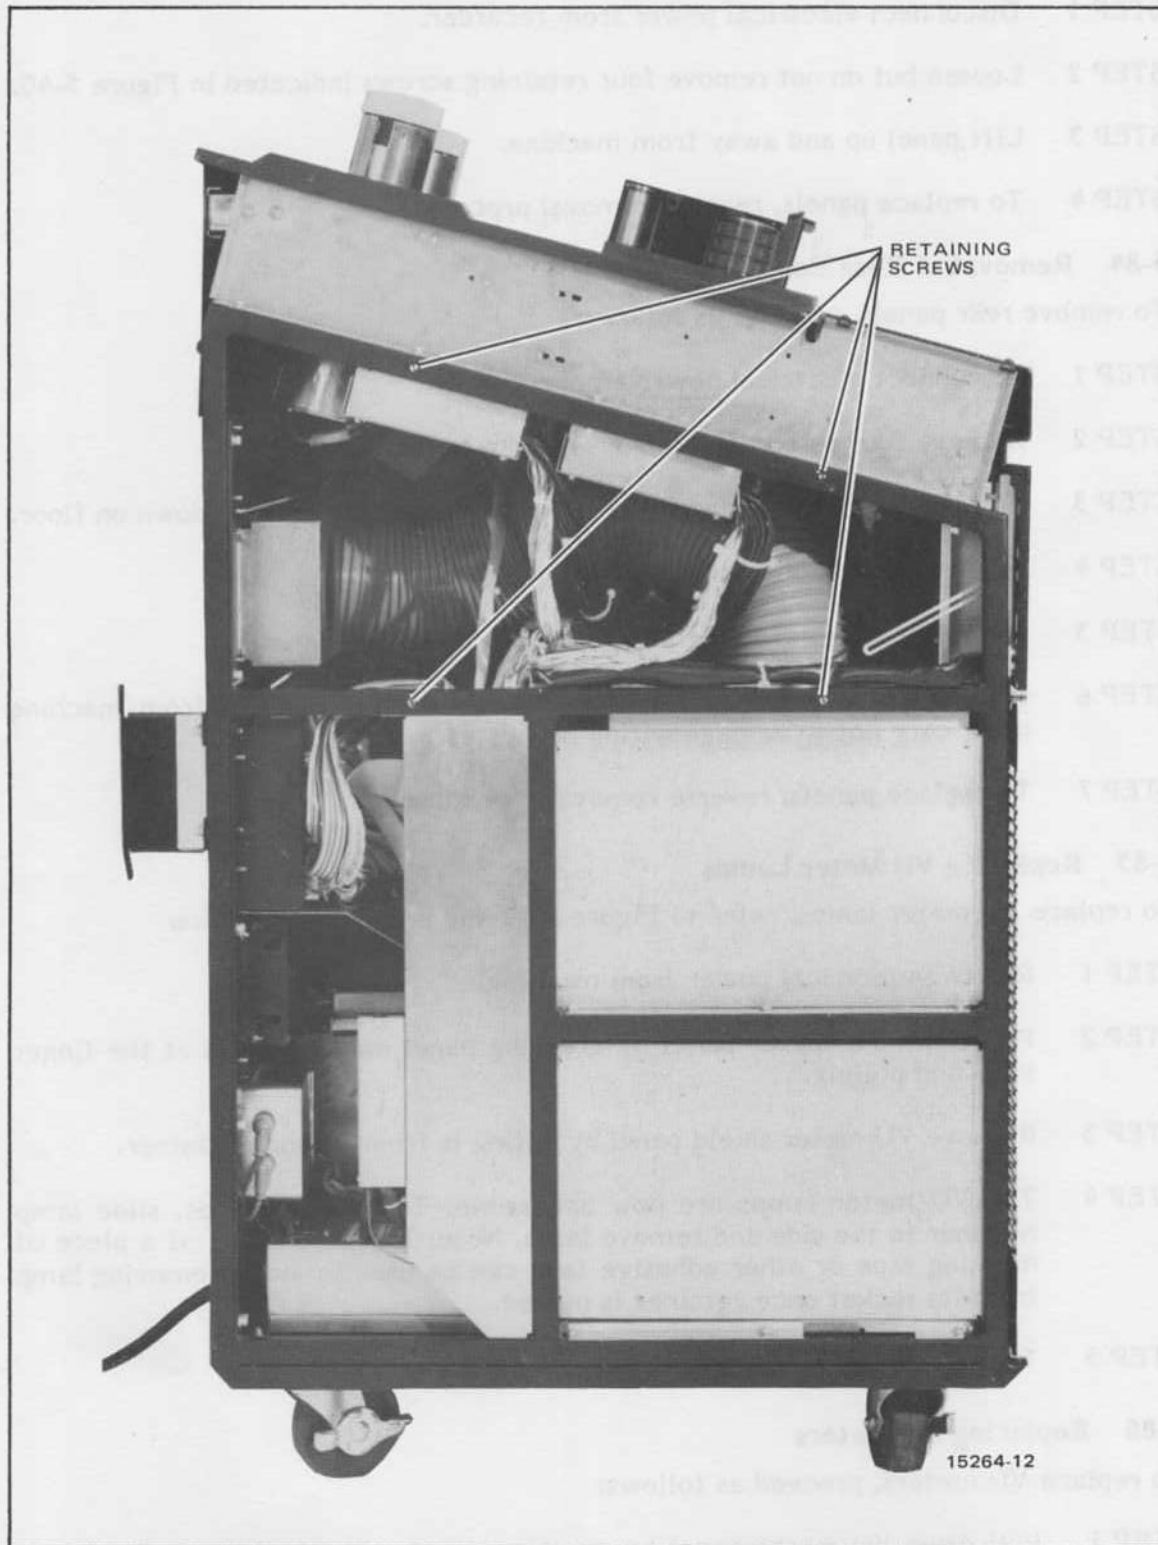

Figure 5-40. Side Panel, Retaining Screw Locations.
- STEP 2 Loosen but do not remove four retaining screws indicated in Figure 5-40.